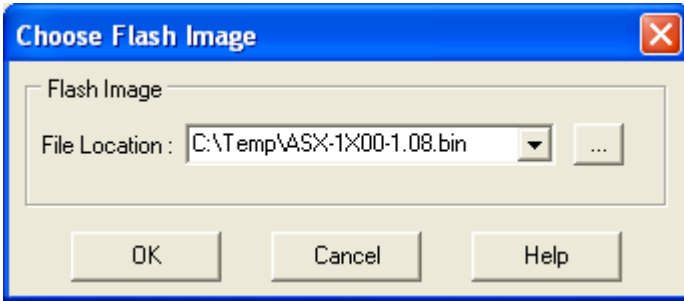

Figure 1-6. Choose Flash Image Window.
3. On the Choose Flash Image window (Figure 1-6), select the firmware file.